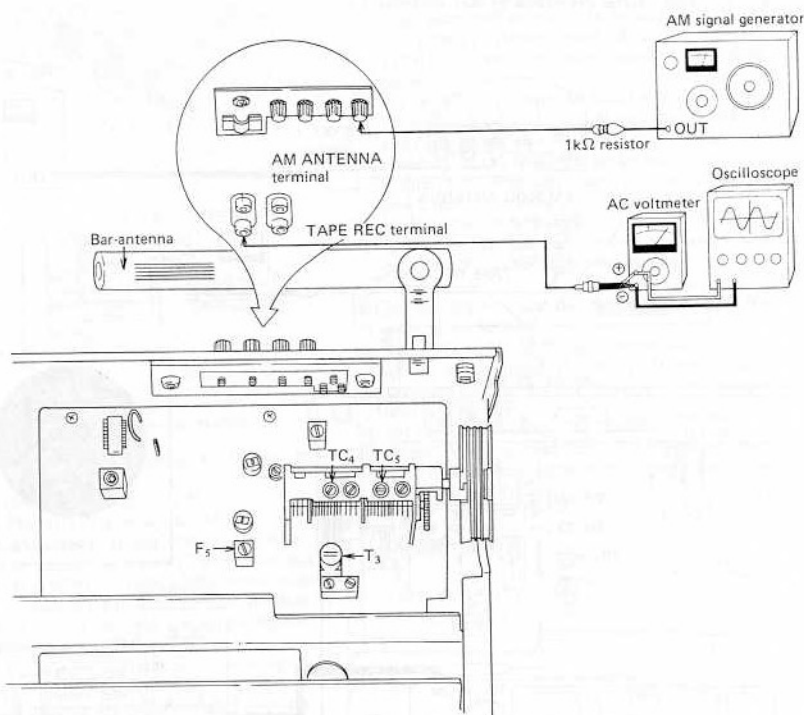

Fig. 12 Connection diagram for AM tuner adjustment
1. Connect the test instruments as shown in Fig. 12.